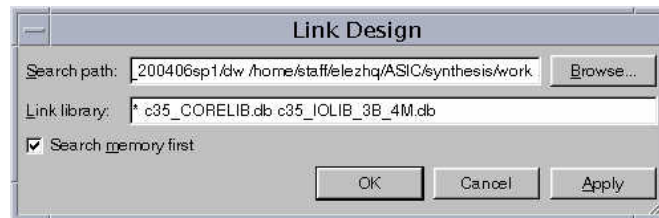

Figure 4-14 Link Design window.
6. On **Design Vision** window, click on **File→Link Design...** from pull down menu. The Link Design window appears as shown in figure 4-14.